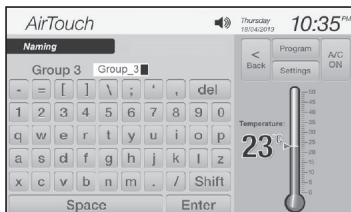

Figure 22.
- Touch a name in the list to specify the name to the group, and also you can touch  to enter or edit a name manually (Figure 22).